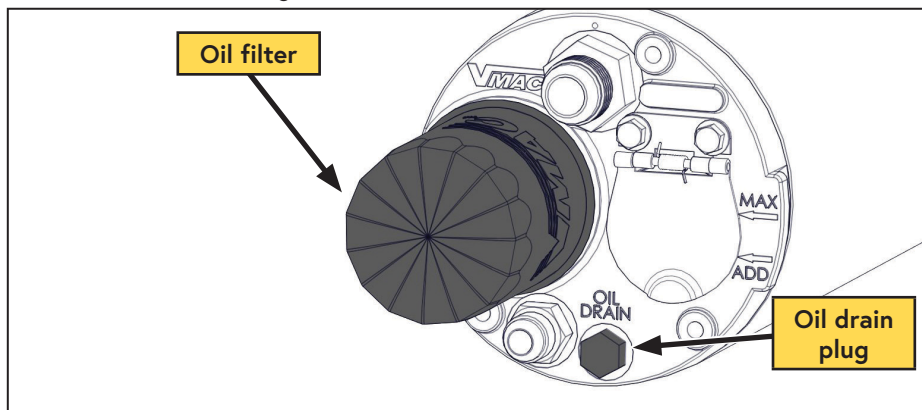

Figure 24 — Compressor oil filter
- ☐ Remove the oil drain plug and drain the oil into a container with a capacity of at least 6 L (1.6 USG) (Figure 24):